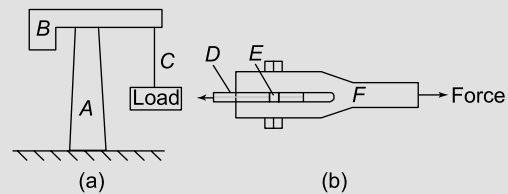

Figure 2.4
**Problem 1.** Figure 2.4(a) represents a crane and Figure 2.4(b) a transmission joint. State the types of forces acting, labelled A to F.